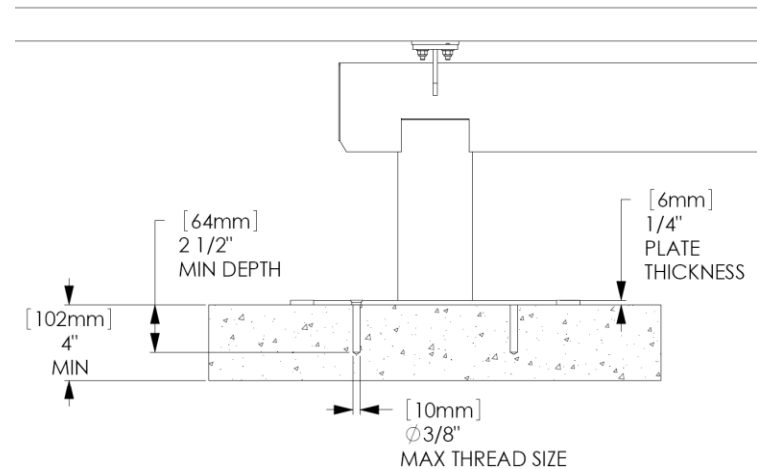

Fig. 1 – Anchor size recommendations
- Non-corrosive anchors (4) required per bench. See Fig. 1 for recommended size.
3. Drill holes according to depth required for anchors. See Fig. 1 for maximum anchor requirements. Clear holes of debris.